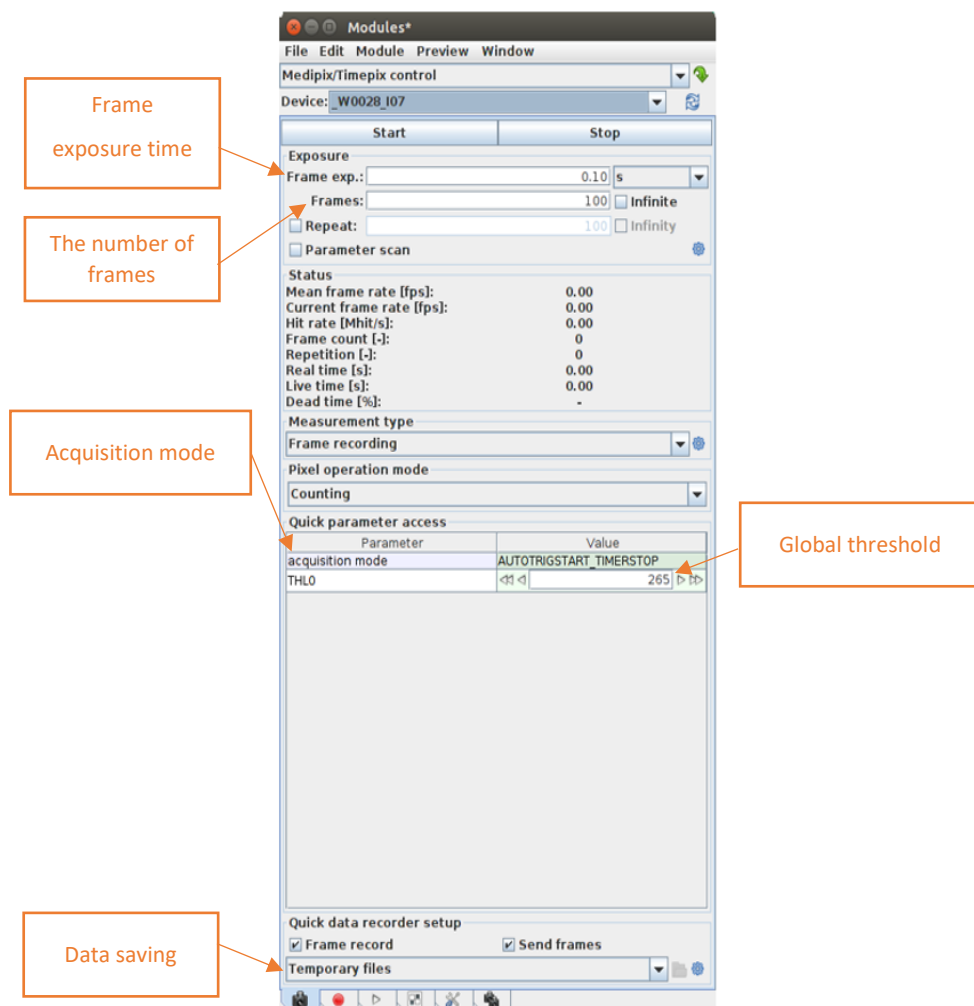

Figure 11. Setting to acquisition mode and frame exposure time
3. Navigate to the Sophy settings tab from the bottom panel of the main window. Here, the external triggering can be enabled as shown in Figure 11. The default setting is automatic acquisition "ACQSTART_TIMERSTOP". For a quick testing, the acquisition mode can be set as
“PEXSTART_TIMERSTOP,” which means the shutter will open at the rising edge of the external signal and close after the exposure time set in **Frame Exp.** on the main module (Figure 11).